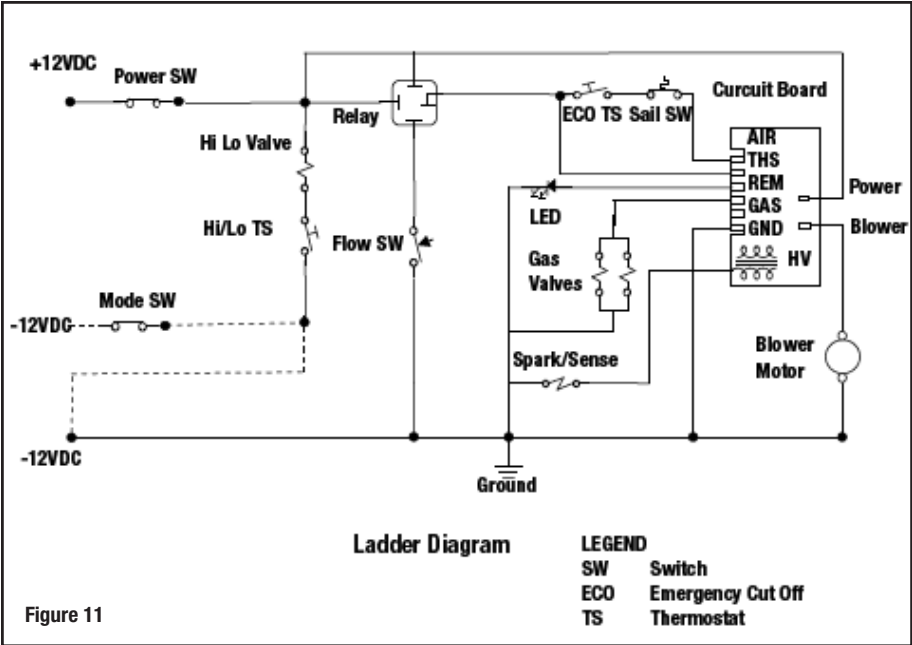

Figure 11
- 3. Figure 11:** A Circuit Ladder Diagram to illustrate the Control logic and functionality of each electrical component